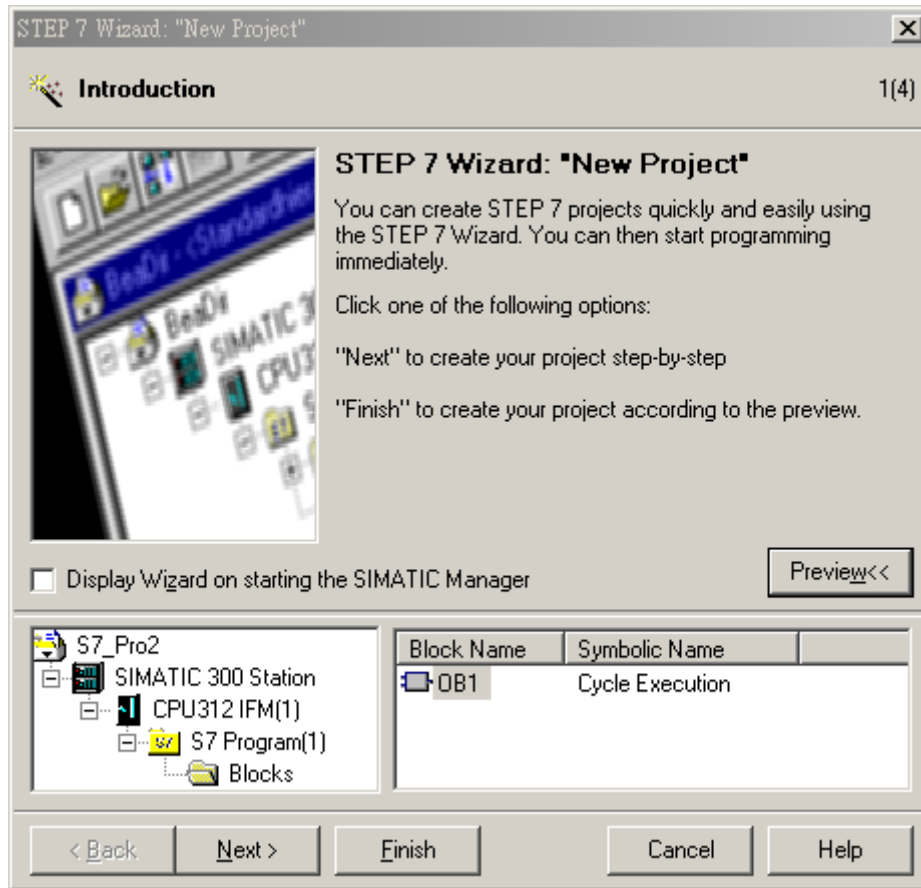

Figure 7-4
3. Click "Next" in the wizard. See Figure 7-4.